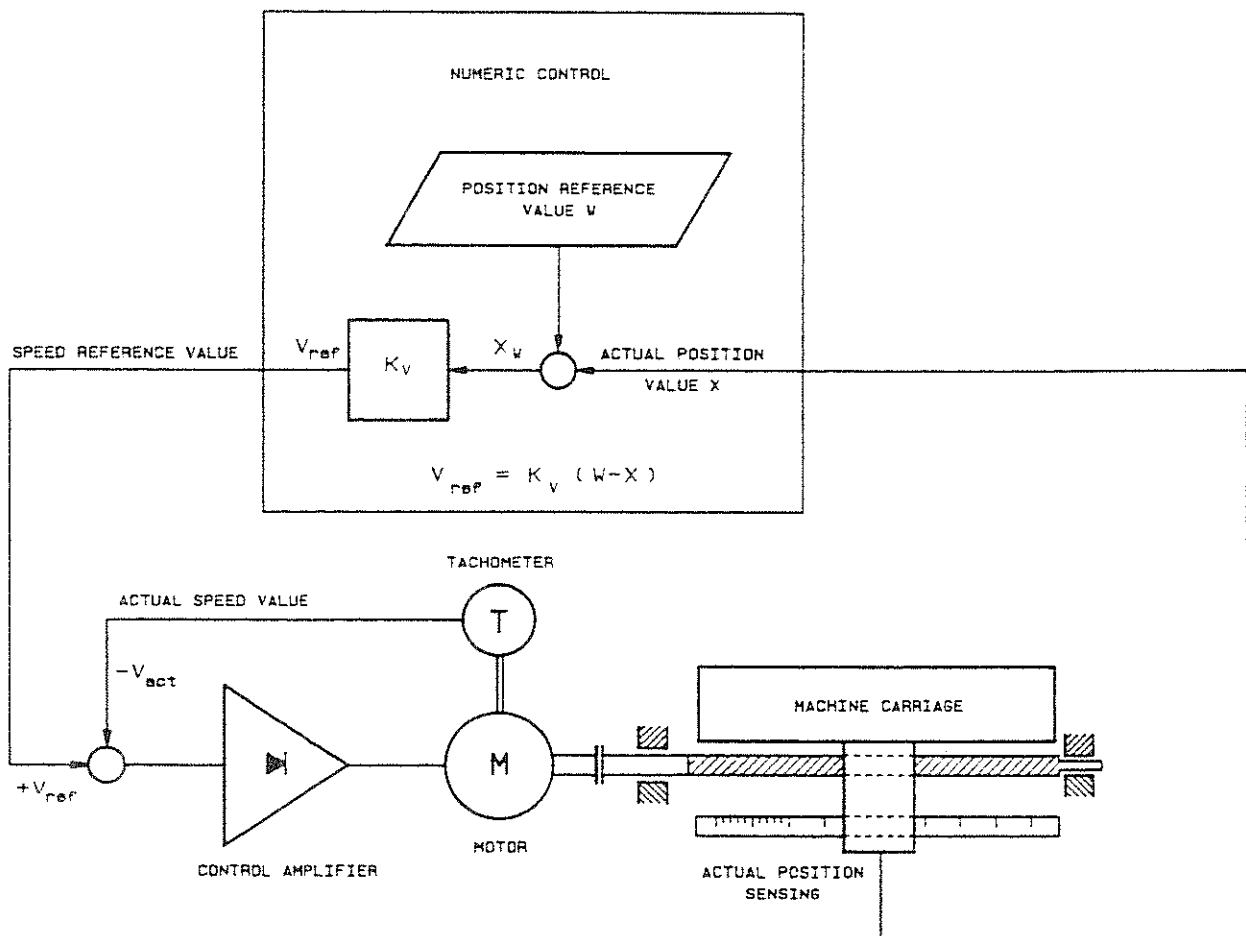

Figure 3-4. Position Control Loop Block Diagram
Figure 3-4 illustrates the block diagram of a typical position control loop. The actual position value (X) is subtracted from the position reference value (W) so that the speed reference value (V_{ref}) increases proportionally with the difference between the actual slide position and the desired slide position. Thus, as the slide moves closer to the desired position, the speed reference value gets smaller and the motor gradually slows down until the slide comes to rest exactly at the desired position.